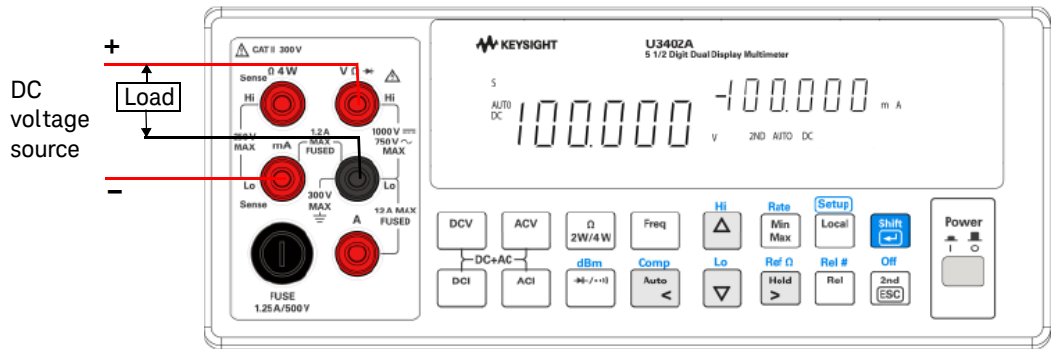

Figure 3-4 Terminal connection when measuring DC voltage and DC current on a transistor circuit or load
- 1 Connect the red and black test leads to the input terminal and probe the test points as shown in Figure 3-4.